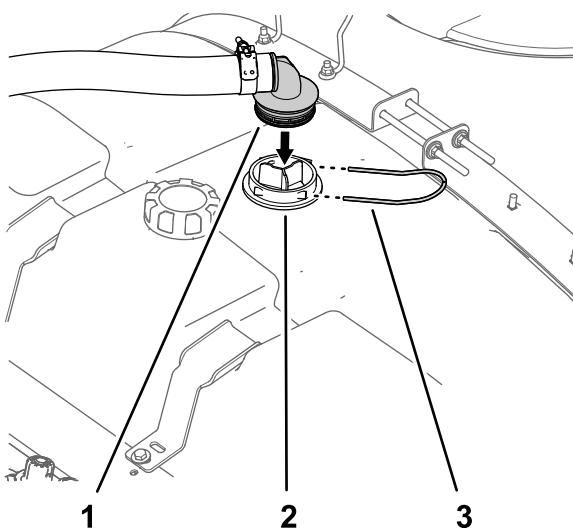

Figure 18
1. Align the 90° barbed fitting of the supply hose with the housing for the suction screen (Figure 18).
2. Secure the 90° barbed fitting to the housing (Figure 18) with the retainer fork that you removed in step 1 of Removing the Rinse Tank \(page 6\).